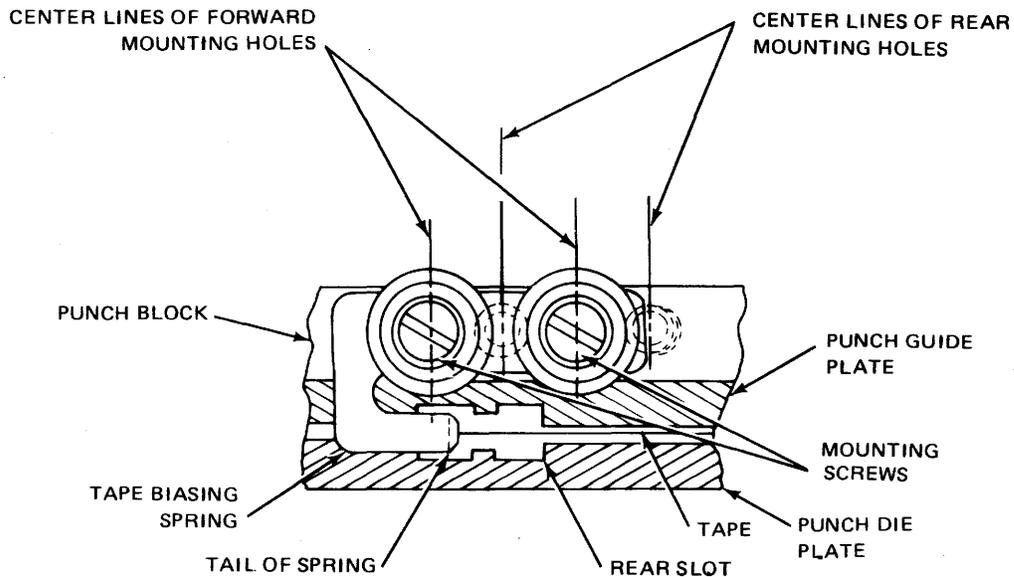

Figure 6-28. Tape Biasing Spring Adjustment.
6. Adjust tape biasing spring (see figure 6-28).
d. Loosen mounting screws until they are friction tight (see figure 6-28).